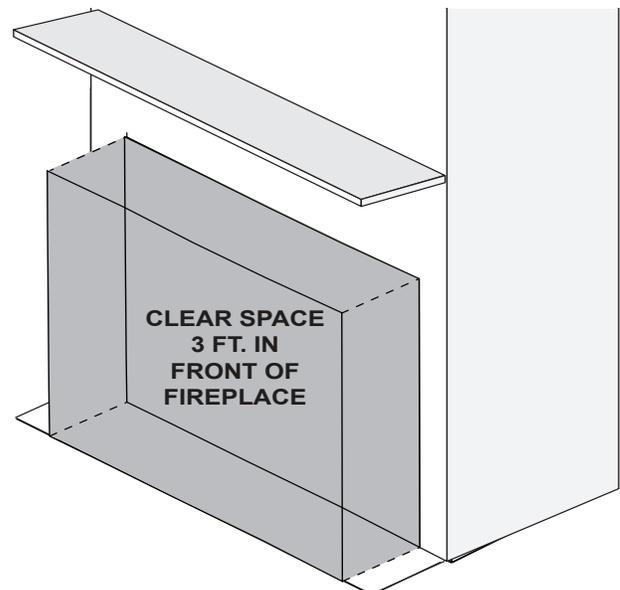

Figure 3.1. Clear Space Requirement
**WARNING! DO NOT place combustible objects in front of the fireplace.** High temperatures could start a fire. See Figure 3.1 Avoid placing candles and other heat-sensitive objects on mantel or hearth. Heat could damage these objects.